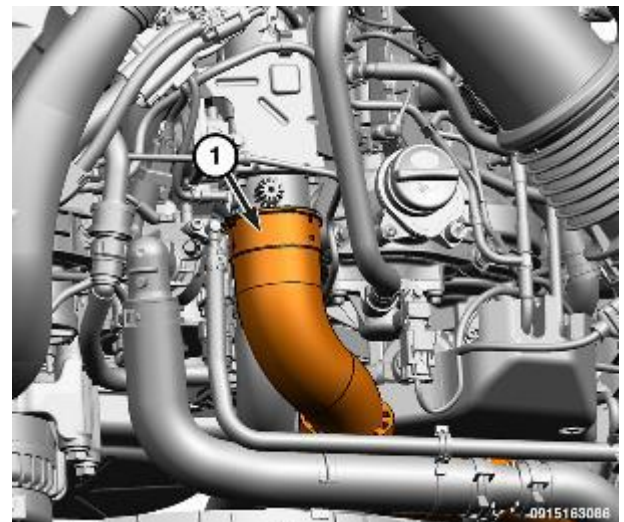

Figure 185 – CAC Hose
- 25. Release the retaining clip (1) and disconnect the CAC hose from the EGR air flow control valve (Figure 185).
48. Install the fuel tube bolt (2) securing the fuel tube and tighten securely (186).
49. Connect the CAC hose to the EGR air flow control valve and secure the retaining clip (1) (Figure 185).